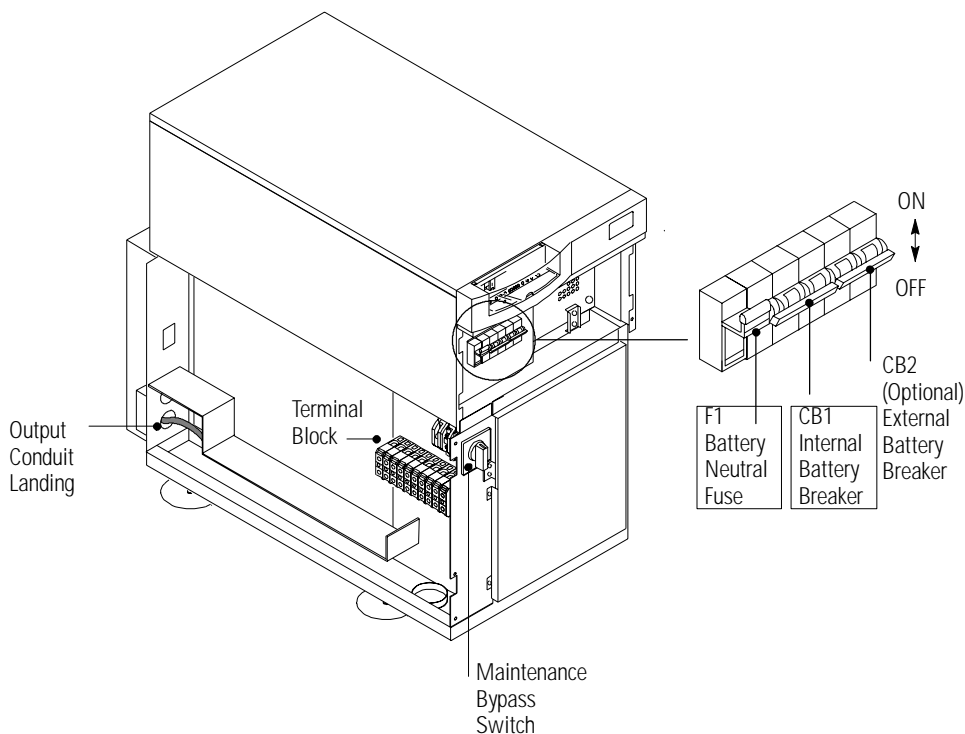

Figure 9. Connecting PDM Wiring to Terminal Block
4. Verify that the UPS battery breaker CB1 and optional CB2 are in the OFF position (see Figure 9).